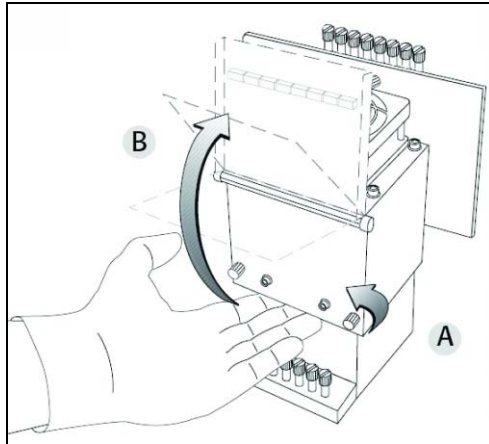

Figure 7-63: Opening the print-head compartment
- Open the print head compartment (see figure 7-63 on page 43).